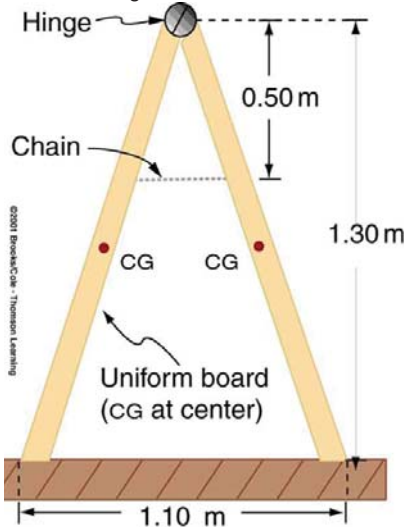

Figure 9.34 A sandwich board advertising sign demonstrates tension.
14. A sandwich board advertising sign is constructed as shown in **Figure 9.34**. The sign's mass is 8.00 kg. (a) Calculate the tension in the chain assuming no friction between the legs and the sidewalk. (b) What force is exerted by each side on the hinge?
15. (a) What minimum coefficient of friction is needed between the legs and the ground to keep the sign in **Figure 9.34** in the position shown if the chain breaks? (b) What force is exerted by each side on the hinge?